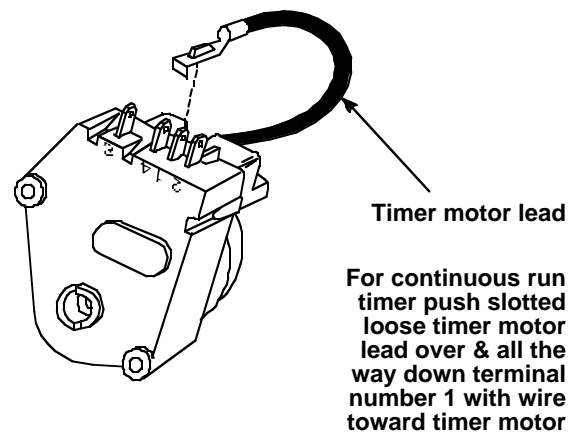

Figure 5
2. Connect loose wire to terminal #1 . (Use numbers only. Disregard any letter designation on timer cover.) See Figure 5.